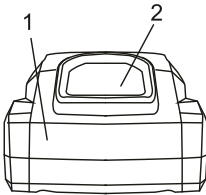
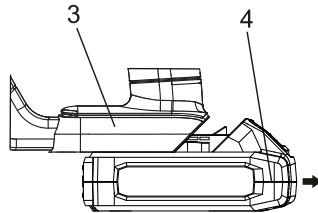

Fig. 5
Fig. 6
1. Remove the discharged battery pack (1) from the tool by pressing the battery release button (2) on the rear of the battery downward (Fig. 5) and pulling the battery pack out of the tool handle (3) (Fig. 6).